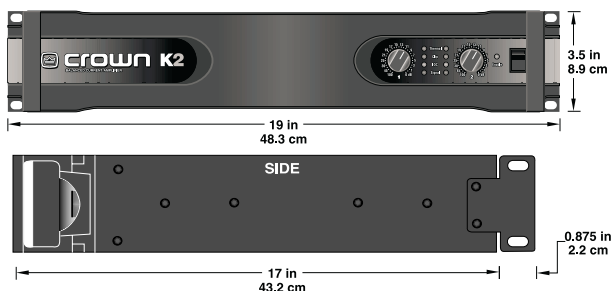

Fig. 2.1
2. **Mount the amplifier.** Your *K-Series* amp is designed to be mounted in a standard, 19-inch (48.3-cm) equipment rack (see Figure 2.1). It has been furnished with a convenient, 2-foot-long AC power cord. To meet system compliance, this cord must be plugged into a local, rack-mounted, commercial grade electrical outlet box. Extension cords are not to be used. The amp has a unique front-panel design which provides exceptional air circulation between *K-Series* amps, which makes it easy to keep your amplifiers cool. (See the section "You Gotta Know When To Kool It!" on page 26 for hints on amplifier cooling.)